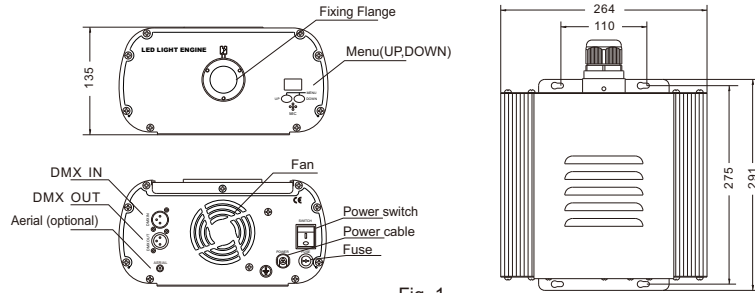

Fig. 1
2. Installation dimension of light engine(see Fig.1) :